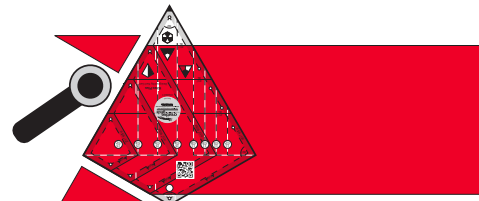

Fig. 3
3. Rotate ruler, line up long edge as shown Base Line (BL) will now be lined up with the top of the strip. Cut away extra fabric on the left side. Fig. 3